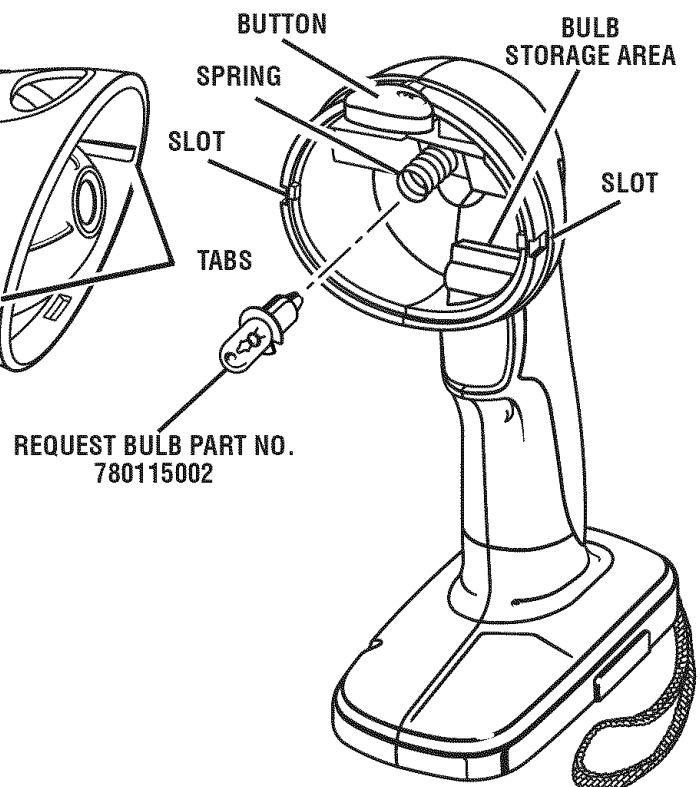

Fig. 5
When purchasing replacement bulb, request recommended part number 780115002. See Figure 5.
**Note:** For your convenience, your worklight has a bulb storage area to store an extra bulb. See Figure 5.